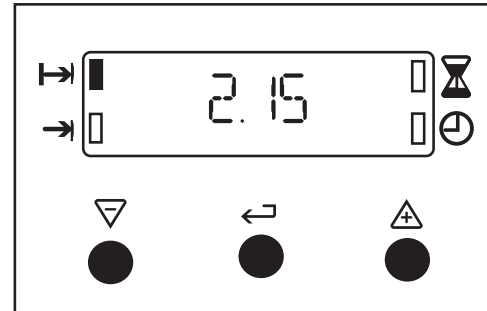

Fig.10.
- To set the length of cooking time, press the Selector Control button until the 'Cook Time' indicator neon is illuminated. Press the increase control (+) until the required length of cooking time is displayed, e.g. 2 hrs 15 mins as Fig. 10. Depress the decrease control (-) if necessary.